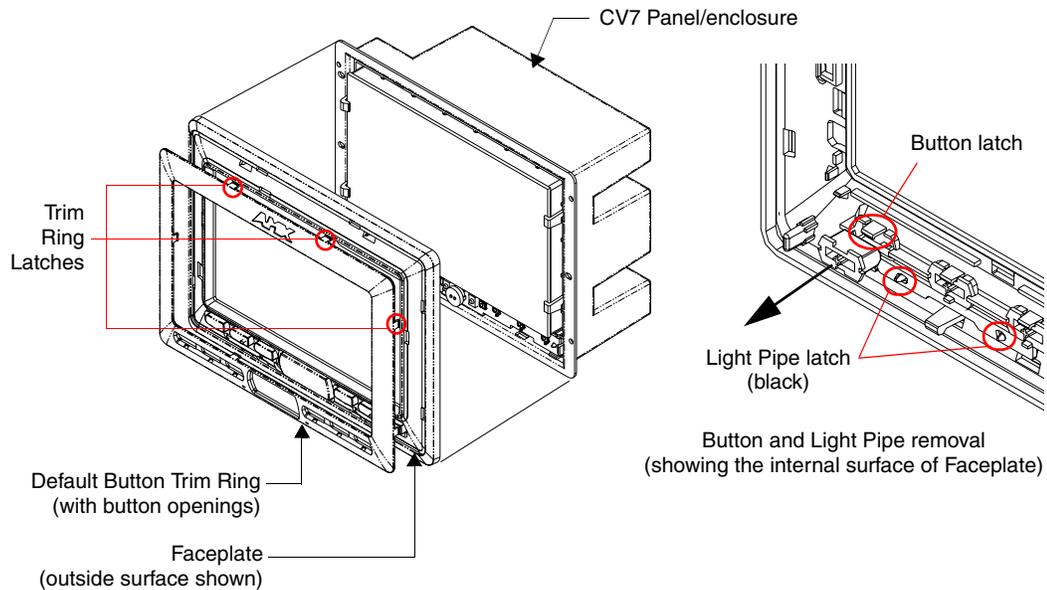

FIG. 30 Removing the default Button Trim Ring
2. Turn the Faceplate over to expose the inside surface and view the Trim Ring latches (FIG. 30).
4. Gently tug along the edges of the Button Trim Ring and work your way around the edges to remove it from the Faceplate (FIG. 30).